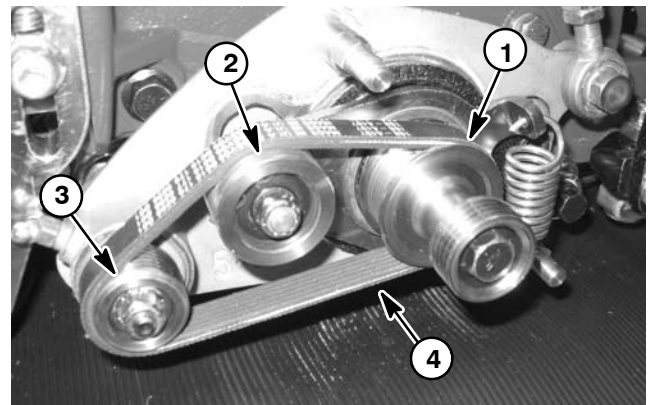

Figure 3
3. Remove groomer belt tension by pivoting idler plate and pulley using a wrench on pulley nut. Slip groomer drive belt off pulleys (Fig. 3). Carefully release idler plate and pulley.
4. Install new drive belt to drive pulley, idler pulley and driven pulley observing correct belt routing (Fig. 3). Make sure that groomer drive belt is above idler pulley after belt installation.
5. Install groomer cover and secure with two (2) flange nuts.